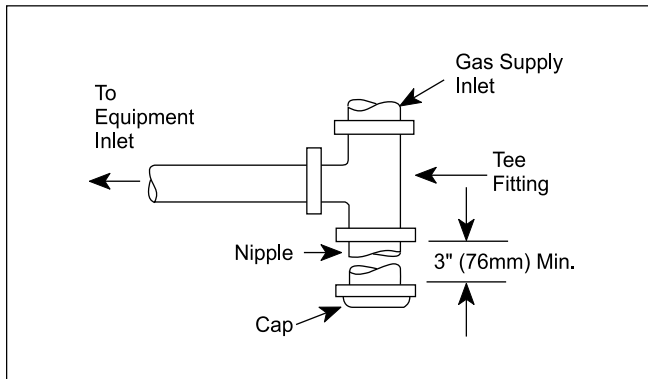

Figure 11. T-Fitting Sediment Trap Installation.
3. A trap (drip leg) must be provided ahead of the gas controls (see Figure 11). A manual gas